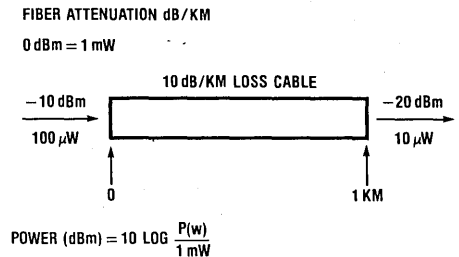
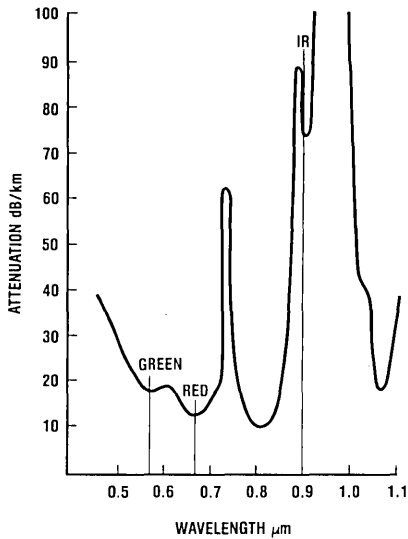
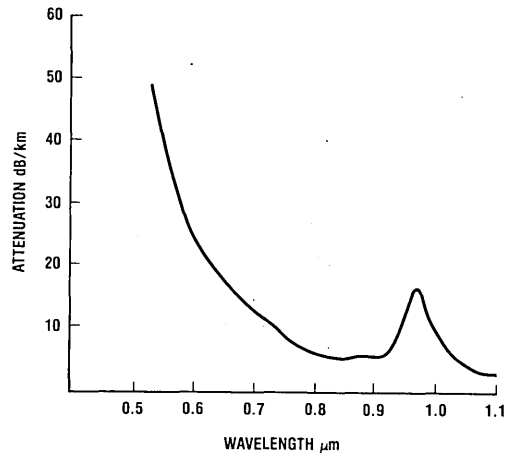

Figure 4: Fiber Attenuation (dB/km)
Figure 5: Typical Fiber Attenuation versus Wavelength (Step Index)
Figure 6: Typical Fiber Attenuation versus Wavelength (Graded Index)
The most important fiber specification is usually its attenuation characteristics. Specified at a given wavelength, the attenuation is measured in decibels per kilometer. Optical fibers are available whose attenuation can range from 0.2dB/km to 10,000dB/km. Figure 4 shows a simple example. We will suppose that we have an optical fiber whose attenuation at the wavelength of interest is 10 dB/km. Light levels are measured in terms of power, and often expressed as dBm, i.e., referenced to 1 mW. Therefore, if we launch 100μW of light into the cable (-10dBm) and the cable is 1km long, the light power at the receiving end will be 10μW or -20dBm. As previously mentioned, we must know the wavelength at which we are going to operate. Most red LED's emit light at 660nm, yellow at 585nm, green at 565nm and infrared (IR) at 900nm. Figure 5 shows a typical fiber's attenuation versus wavelength characteristics. Note that the attenuation can vary widely depending upon the chosen wavelength. A green LED would be attenuated by 18dB/km, a red LED 11dB/km. An IR LED would be significantly attenuated by 90dB/km. Figure 6 shows a somewhat better behaved wavelength-attenuation graph. This happens to be for a graded index fiber. Graded index refers to the index of refraction gradually decreasing as the distance away from the center of the cable. Note that there is no single wavelength that is optimum for all fibers. Careful consideration must be given to selecting the appropriate cable for use with the chosen emitter wavelength.